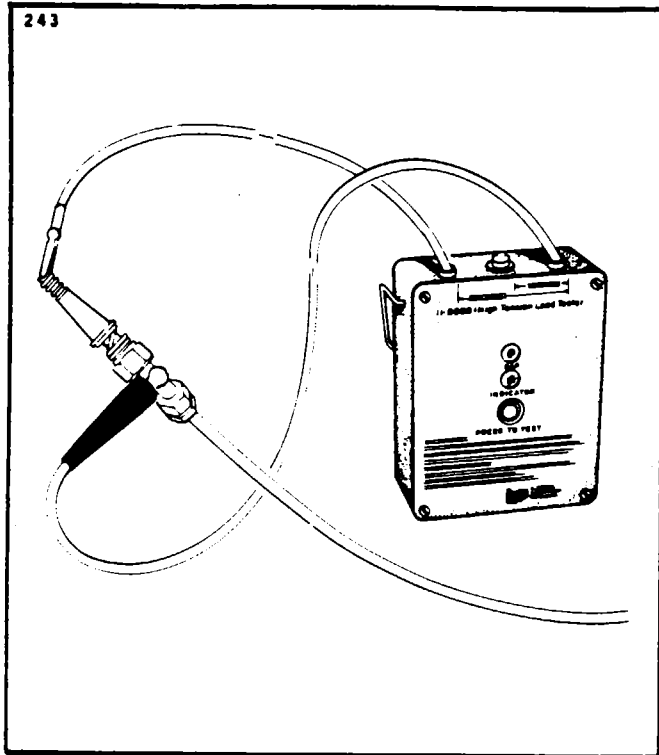

Figure 8-24. Checking Harness Lead Insulation Resistance
1. Attach the red high voltage test lead to contact spring of harness lead. (Refer to Figure 8-24.)
2. Attach the black test lead to the ferrule of the same harness lead. (Refer to Figure 8-24.)